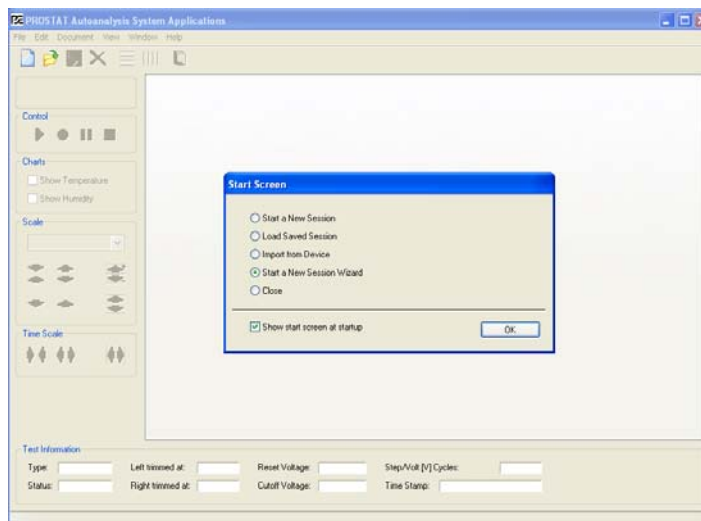

Figure 4: Start a new session
- Start Software. Open Autoanalysis Applications Software on the computer and select **Start a New Session Wizard** (Figure 4)